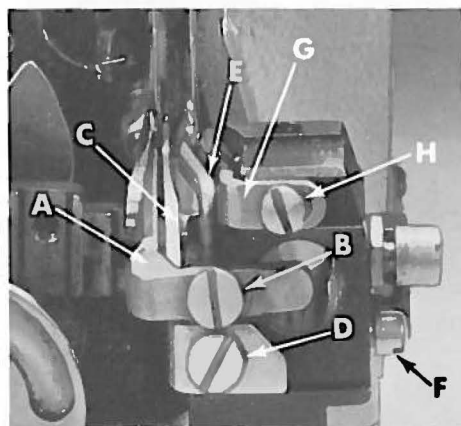

Fig. 9
When overedge lower looper point is at needle scarf, set overedge rear needle guard (A, Fig. 9) so that it touches but does not deflect the needle, .000 to .004 inch (.000 to .102 mm) clearance. Check to ensure that needle guard does not interfere with lower looper or movement of the lower knife holder. Screw (B) is used to set the rear needle guard. The needle thread is to be free to pass through the needle eye without being pinched by the needle guard with the needle down.
With needle at bottom position, set front overedge needle guard (C, Fig. 9) to touch but not deflect needle, .000 to .004 inch (.000 to .102 mm) clearance. Guard should not pinch thread in needle eye. Screw (D) is used to set front needle guard. After making adjustment, make sure there is no interference between needle guards and differential feed dog.
Insert rear needle guard into the hole in the throat plate support bracket. When 401 looper point is at the center of the needle scarf, set 401 rear needle guard (E, Fig. 9) so it touches but does not deflect needle, .000 to .004 inch (.000 to .102 mm) clearance. This guard setting will be approximately 3/16 to 7/32 inch (4.76 to 5.56 mm) below throat plate seat. With needle in down position, guard should not pinch thread in needle eye. Then lock the guard in place with set screw (F).
With needle at bottom position, set front 401 needle guard (G, Fig. 9) to touch but not deflect needle, .000 to .004 inch (.000 to .102 mm) clearance. Guard should not pinch thread in needle eye. Check for clearance between 401 looper and front 401 needle guard. Turn handwheel in operating direction, making complete revolutions to check whether needle is disturbed or pinched. Lock with screw (H).